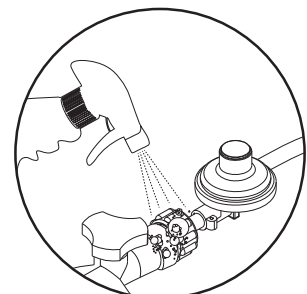

Fig. 1
6. Open the cylinder valve fully (counterclockwise). Apply the soap solution with a clean brush to all gas connections (See Fig. 1). If growing bubbles appear in the solution the connection is not properly sealed. Check each fitting and tighten or repair if necessary.